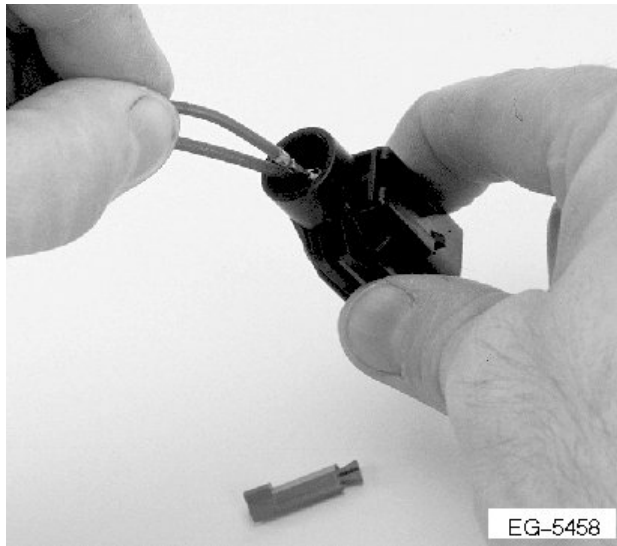

Figure 275 Insert Terminal
1. Push the terminal into the connector body, deep enough so that the retaining finger snaps over the terminal shoulder (See Figure 275, page 443).